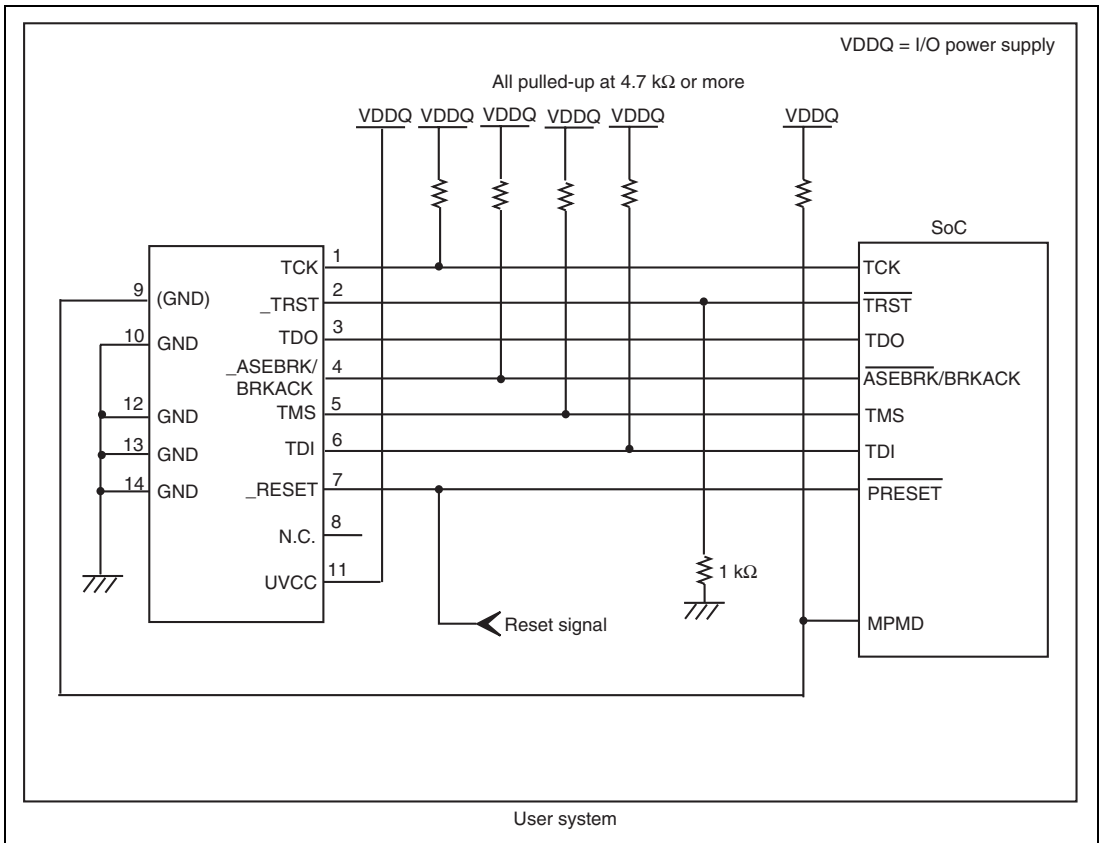

Figure 1.4 Recommended Circuit for Connection between the H-UDI Port Connector and MPU when the Emulator is in Use (14-Pin Type)
Figure 1.4 shows a recommended circuit for connection between the H-UDI port connector (14 pins) and the MPU when the emulator is in use.
- (1) When the emulator is used: $MPMD = 0$
- (2) When the emulator is not used: $MPMD = 1$Figure 1.4 shows an example of circuits that allow the MPMD pin to be GND (0) whenever the emulator is connected by using the user system interface cable. When the MPMD pin is changed by switches, etc., ground pin 9. Do not connect this pin to the MPMD pin.
6. The resistance value shown in figure 1.4 is for reference.
When the circuit is connected as shown in figure 1.4, the switches of the emulator are set as SW2 = 1 and SW3 = 1. For details, refer to section 3.8, Setting the DIP Switches, in the SuperH™ Family E10A-USB Emulator User's Manual.